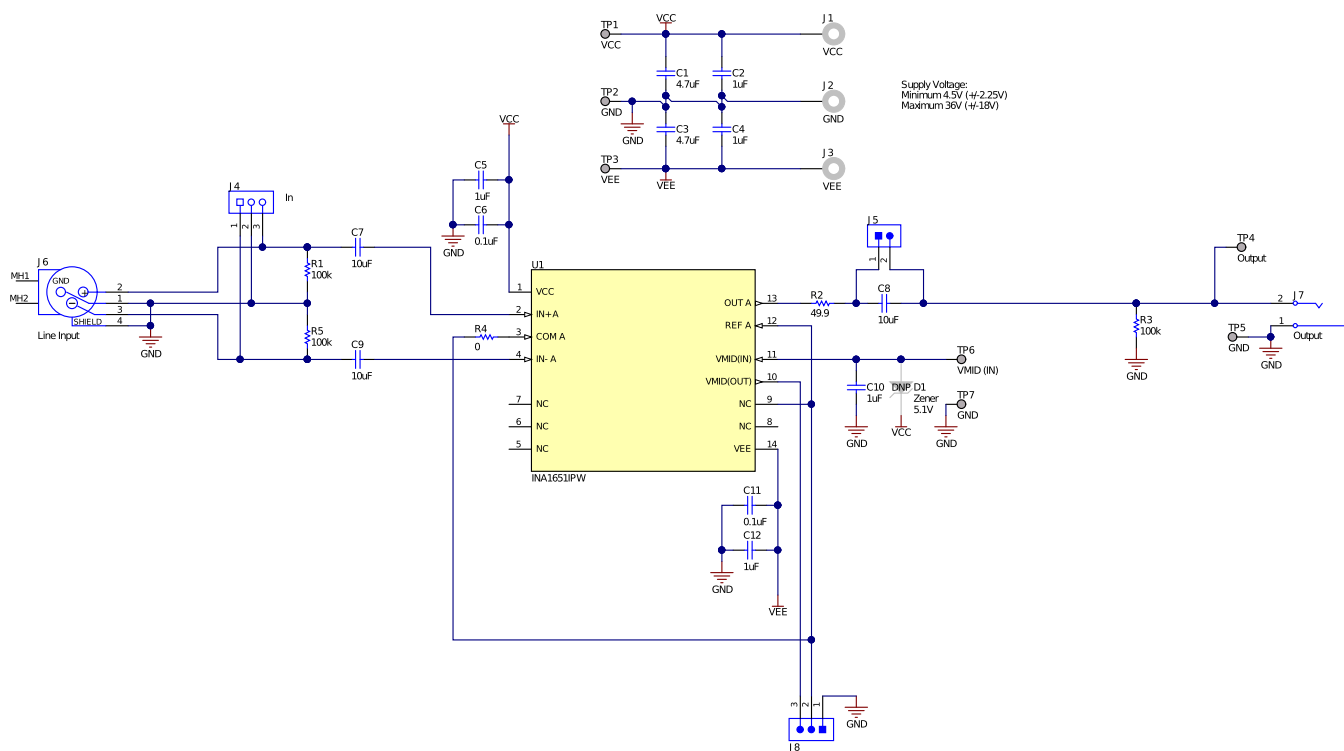

Figure 13. Schematic
This EVM is designed to provide access to the features of and measure the performance of the INA1651. Modifications of the INA1651EVM can be made and include; adjusting the ac-coupled corner frequency, filtering the VMID (IN) pin, adjusting the start-up time, and increasing the common-mode input impedance. A simplified schematic of the INA1651EVM is displayed in Figure 2. For a full schematic of the INA1651EVM, see Figure 13.
Figure 13 illustrates the EVM schematic.